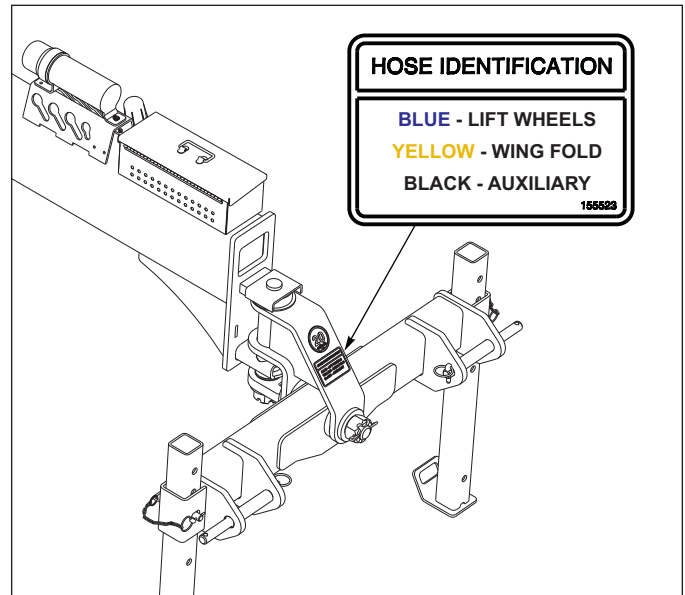

Figure 5-3: Hose Identification Decal
1. The hydraulic hoses are color coded to help identify and match the attaching hoses on the Seeder. An identification decal is placed on the front of the hitch to help identify the hoses. **See Figure 5-3.**